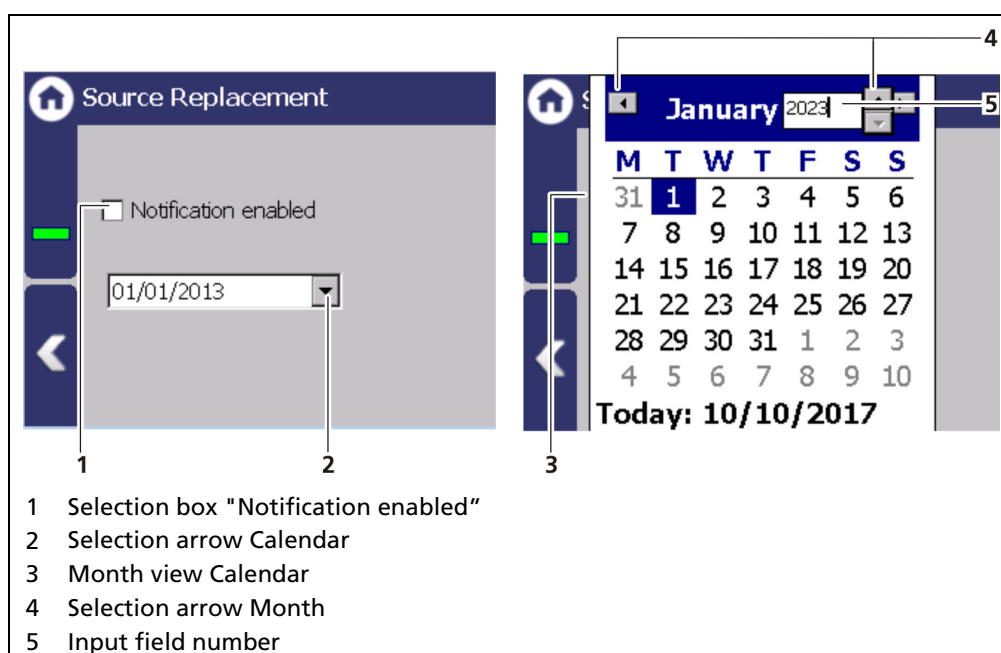

Fig. 110 Source replacement
1. Activate the check box (Fig. 110, item 1).
2. Click on the arrow key (Fig. 110, item 2) in order to set the date.
3. Click on the year (Fig. 110, item 5) to select the year with the arrow keys.